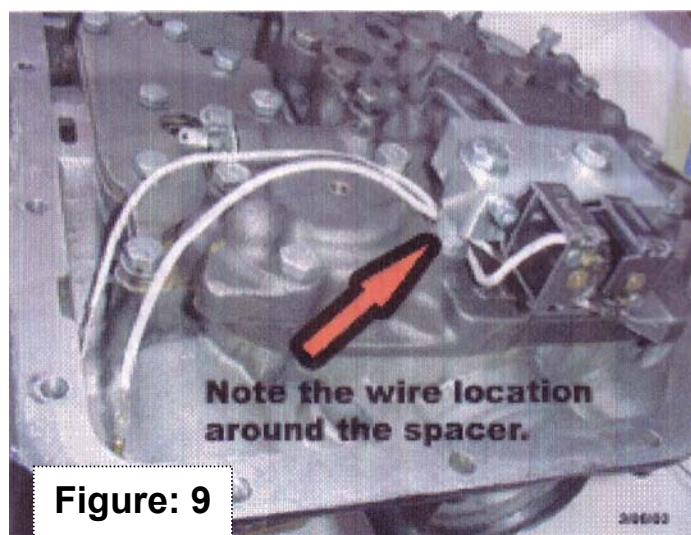

Figure: 9
Step 12: Connect wires to case connectors, (Figure 9). Note how wires are routed around the spacer to prevent interference with dip stick. The front solenoid wire (converter side of manifold), goes to the case connector which is in the old kickdown cable hole. This is your 1-2 shift wire connection.